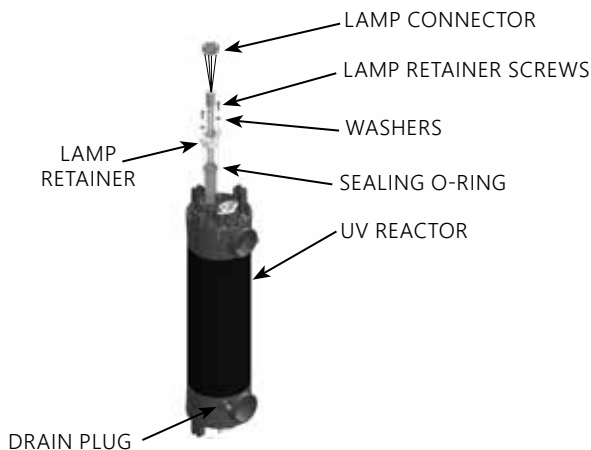

Figure 7: UV Reactor Subassembly
3. Locate the Drain Plug (Refer to **Figure 7**) and remove to drain the remaining water in the DEL AOP 50.
3. Place the Lamp Retainer over the Quartz Tube and using the hex key included in the parts bag, attach the Lamp Retainer to the UV Reactor using the Lamp Retainer Screws and Washers as shown in **Figure 7**. Make sure the Lamp Retainer flanges are fully seated against the UV Reactor.